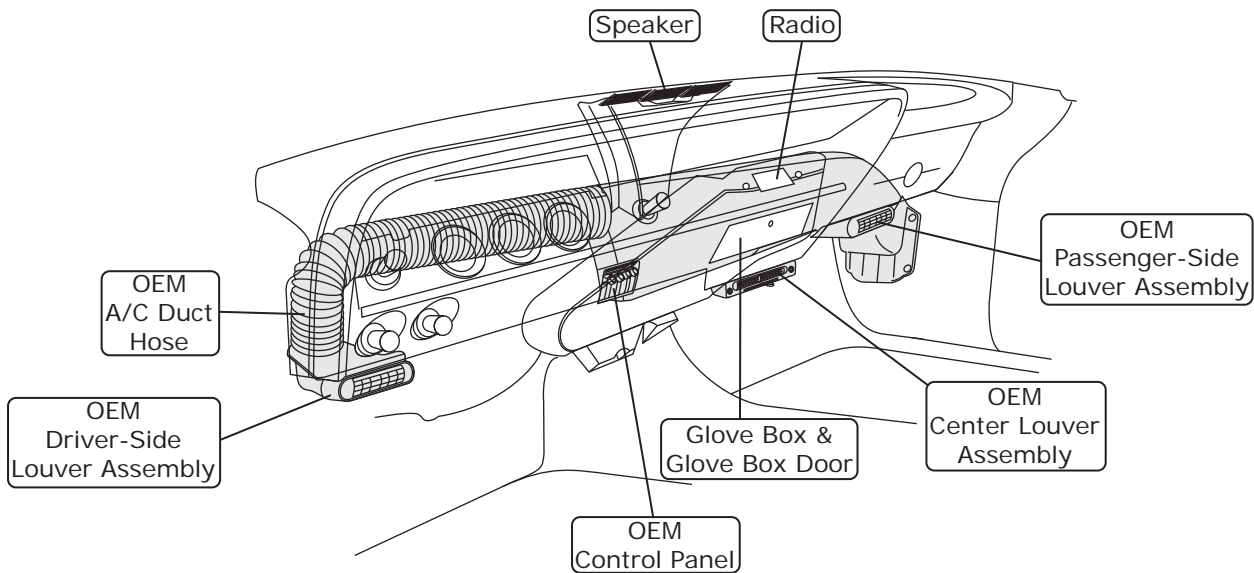

Figure 2
1. Remove the passenger-side OEM A/C duct assembly (See Figure 2, below).
2. Remove the driver-side OEM A/C duct and louver (See Figure 2, below).
3. Remove the OEM center louver assembly (See Figure 2, below).
4. Remove the OEM control panel assembly (See Figure 2, below).
5. Remove the OEM heater assembly (See Figure 2, below).
7. Remove the radio and speaker (retain) (See Figure 2, below).